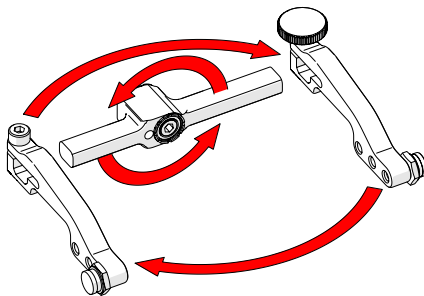

Fig. 123 - Flip yoke and reverse arms
4. Flip the yoke 180° and reverse the probe holder arms (Fig. 123).